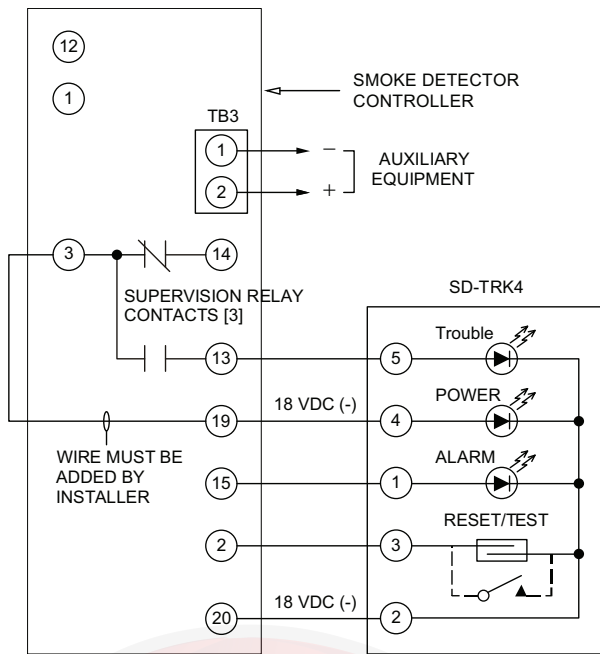

Fig. 47 — Remote Test/Reset Station Connections
The test/reset station dirty sensor test checks the test/reset station's ability to initiate a sensor dirty test and indicate the results. It must be wired to the controller as shown in Fig. 47 and configured to operate the controller's supervision relay. For more information, see "Changing the Dirty Sensor Test."
1. Verify that the remote test/station is wired as shown in Fig. 47. Repair or replace loose or missing wiring.